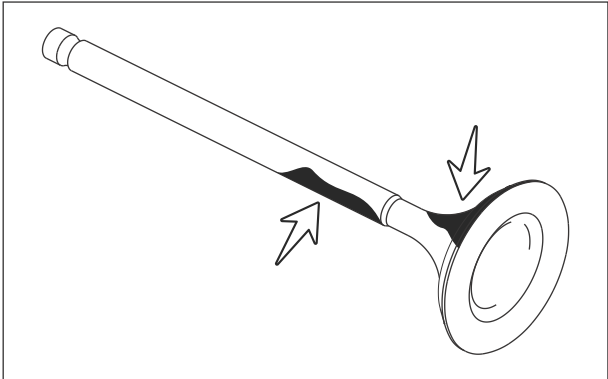

Fig. 3.57
- Carbon deposits on the valve stem rubs continuously on guide valve and results in increased clearance between the stem and guide valve. Clean the valve stem with suitable cleaning solvent. (Fig. 3.57)